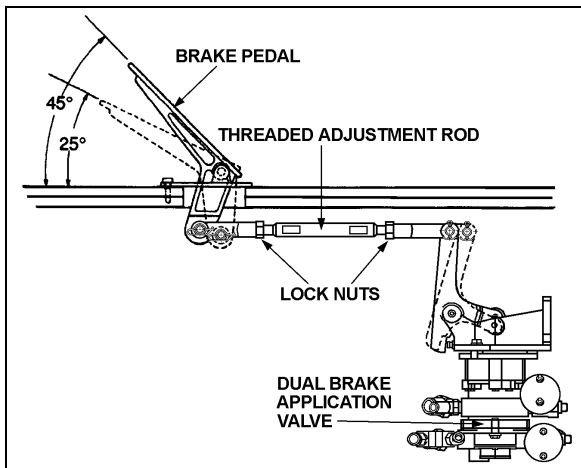

FIGURE 14: BRAKE PEDAL ADJUSTMENT 12208
1. Replace the linkage, loosen threaded rod lock nuts and screw or unscrew the threaded adjustment rod in order to obtain a 45° brake pedal inclination (Figure 14).